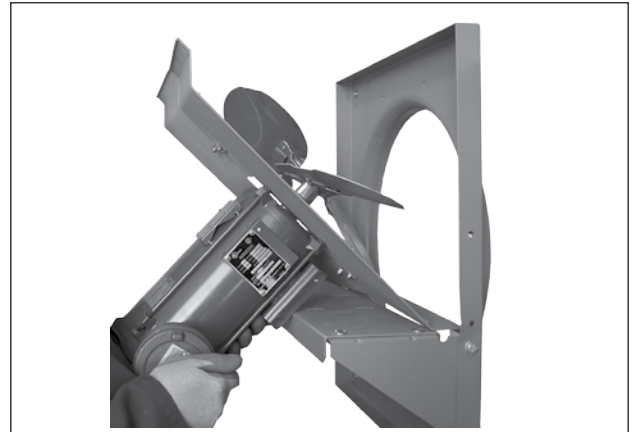

**FIGURE 8**
- f. Ensure air exits through dampers and fan rotates counterclockwise when viewed from rear of fan (see Figure 8).